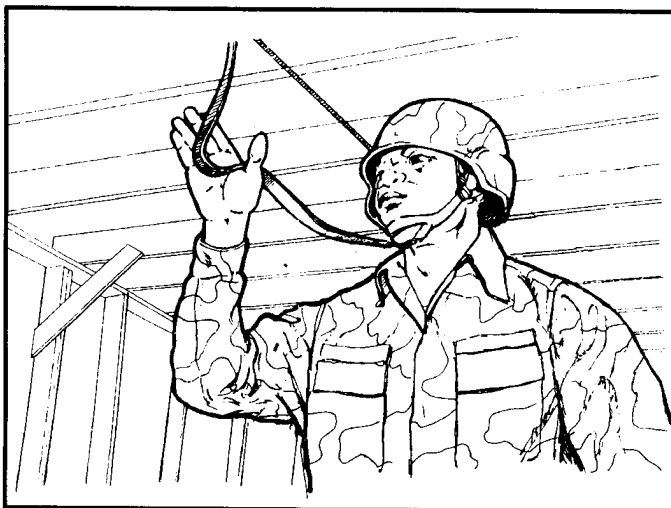

Figure 4-7. Static line bight.
(6) **Bight.** The parachutist forms a bight of about 6 inches in the static line by making one fold and grasping the loop at eye level about 6 inches to the front (Figure 4-7). The remainder of the static line is routed over the shoulder. The free hand is used to steady the parachutist while moving toward the door.